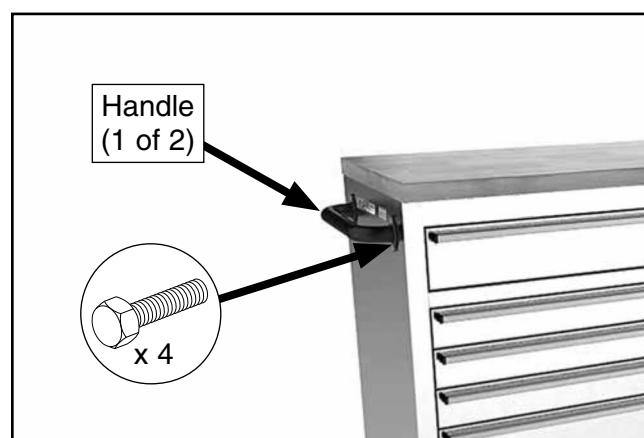

Figure 2. Handle installed.
1. Attach handle to each side of tool chest with (4) $\frac{1}{4}$ "-20 x $\frac{1}{2}$ " hex bolts (see **Figure 2**). Do not over-tighten!